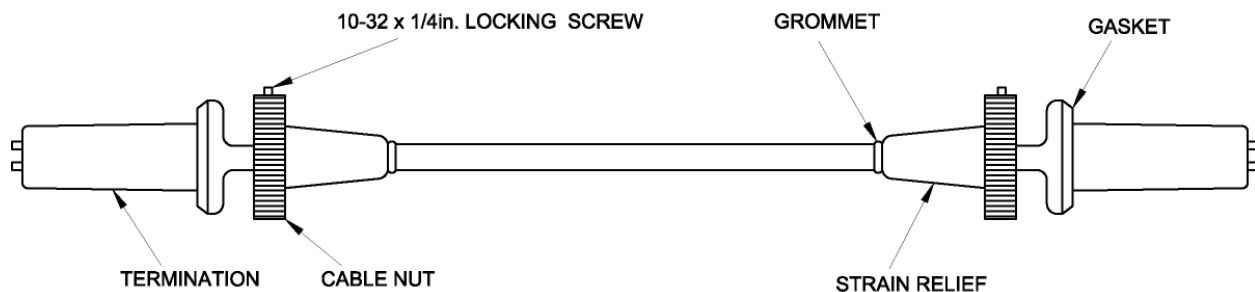

Figure 5-2a Connect High Voltage Cables
It is important that these instructions be followed for the proper installation of the high voltage cable plug into the tube and high voltage tank receptacles. Please use proper handling to ensure cable terminations and receptacles are clean and free of moisture. Connect high voltage cables (anode and cathode) as follows in figure 5-2a.
1. Assemble onto the high voltage cable end of cable retaining nut, grounding washer and strain relief if these parts are not already assembled to cable, (see figure 5-2a above). Make certain the 10-32 X 1/4" locking screw is turned out so as not to interfere with engagement.